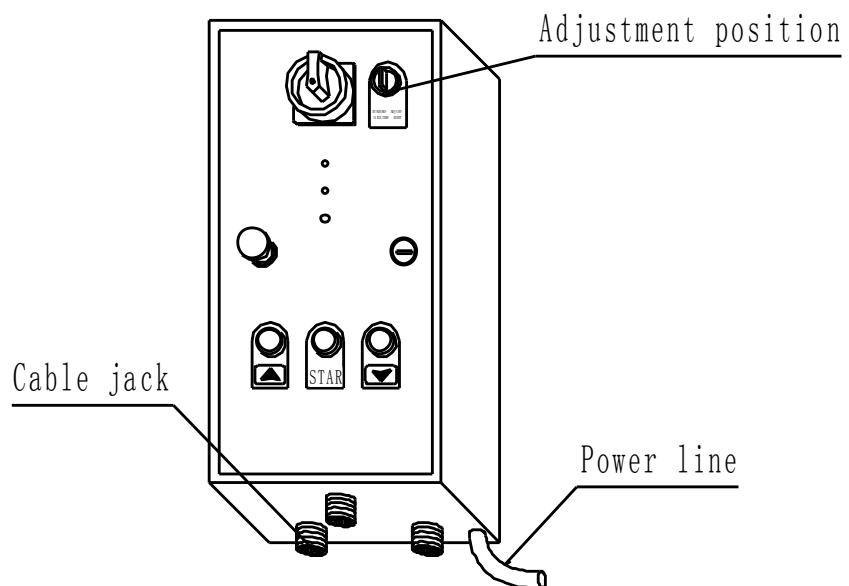
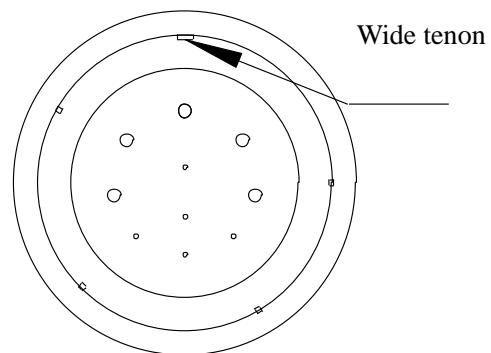

fig24
Figure 25 Sketch map of cable plug
11) Insert cable plug into cable socket under main electric cabinet (fig 24). Aim plug tenon at gap of socket (fig 25), make sure cable plug is in cable socket and tightened tightly.